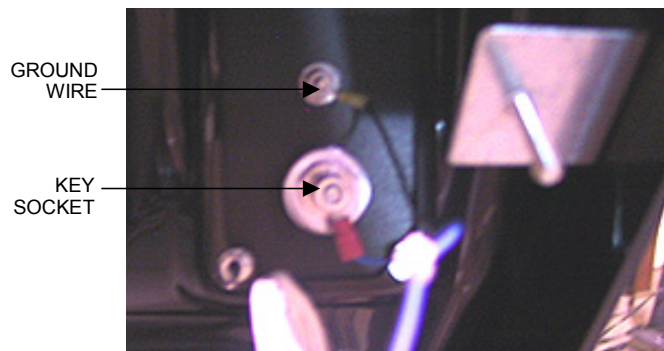

FIGURE 45 - KEY SOCKET AND GROUND
5. Proceed to the top of the bezel and remove the key socket wire and ground wire. See Figure 45. Also remove the wire connection to the coin mechanism on the opposite side of the bezel.
15. Return the bezel in place on top of the game, but do not secure it. Reconnect all wire connections attached to the bezel, including the key socket wire, ground wire (see Figure 45), coin mechanism and button controller connections.